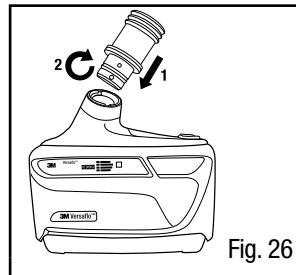

Fig. 26
1. Connect the trunk end of the BT-60 Series Breathing Tube to the outlet of the 3M™ Motor Blower by aligning the two pins on the breathing tube to the slots on top of the blower, inserting the connector until it cannot be inserted further, and then turning clockwise a quarter turn until it meets the internal stop (Fig. 26).